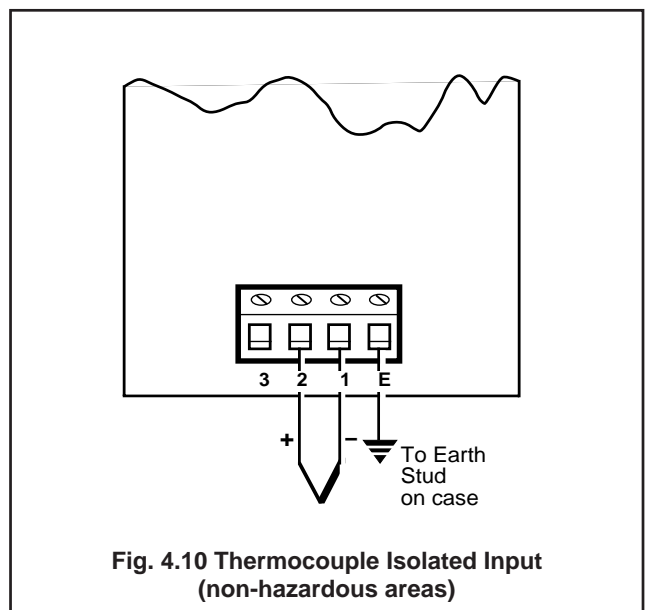

Fig. 4.10 Thermocouple Isolated Input (non-hazardous areas)
4.4.3 Thermocouple (THC) Inputs – Figs. 4.10
Make connections as shown in Fig. 4.10.